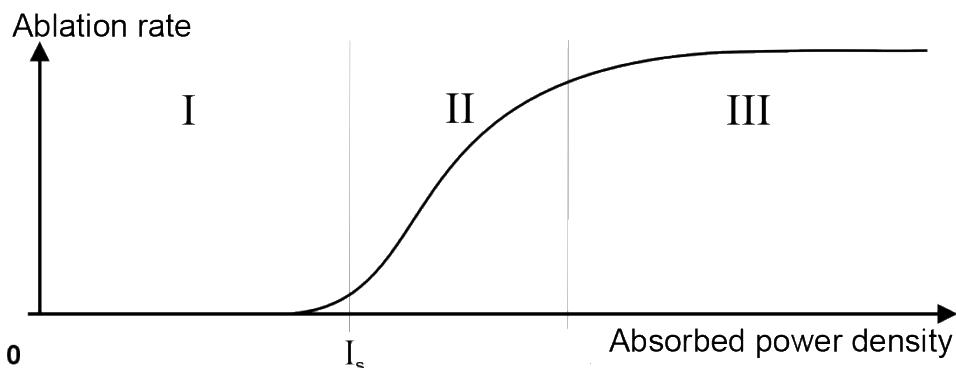

Fig. 55: Tissue effect depending on power density
- the density of the absorbed laser power is lower (ablation threshold  $I_s$  in Fig. 55) than necessary for the vaporisation of the water in the tissue. The tissue effect is purely coagulating.
- in other words, the cooling effect by dissipating heat into the surrounding tissue prevents the required temperature for the evaporation of the tissue from being reached (no exceeding of the ablation threshold  $I_s$  Fig. 55).
The removal rate (ablation rate in Fig. 55) can be controlled to a certain extent by variation of the power density (range II in Fig. 55).
Further increase in power density (area III in Fig. 55) does not lead to a further increase in the ablation rate, because the tissue is protected from laser radiation by the evaporating ablation products.